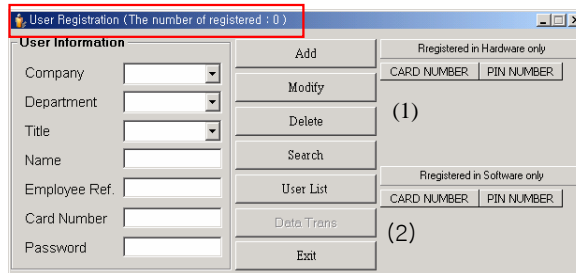
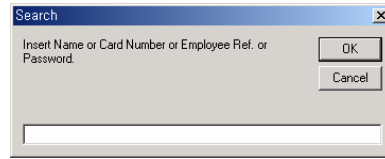

Figure 2.8
Figure 2.10
When above procedure is completed, those Card/PIN numbers stored only in the STAR100R hardware will show under the heading 'Registered in Hardware Only' (1) in Fig 2.8 and Card/PIN numbers stored only in the PC will show under the heading 'Registered in Software Only' (2) in Fig 2.8.
Click 'Search' button in Fig 2.8. A search prompt screen will appear as in Fig 2.10.
If the name of person being sought is clicked in Fig 2.11, a display will show data entered in Fig 2.8.